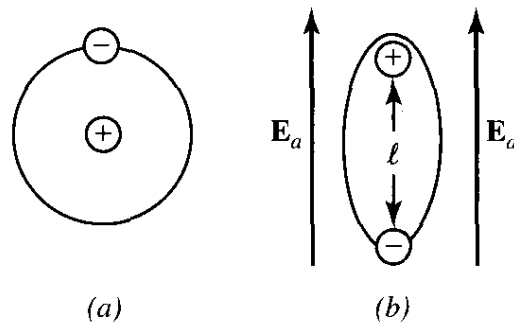

Figure 2-2 A typical atom. (a) Absence of applied field. (b) Under applied field.
- However, when an external electric field is applied (\vec{E}_a), Coulomb force $\vec{F} = q\vec{E}_a$, causes the formation of electric dipoles, $d\vec{p}_i = Q\vec{l}_i$, or the alignment of existing electric dipoles, i.e., polarized molecules (H_2O) or ionic molecules ($NaCl$) as shown in Figures 2-2 to 2-4.